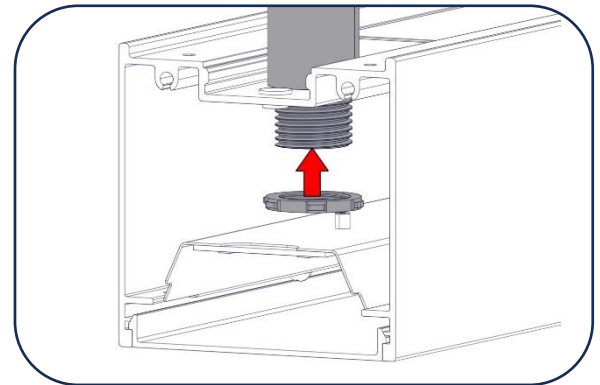

Figure 6
16. Secure the fixture to each Stem using the included ½” lock nuts. [Figure 6]